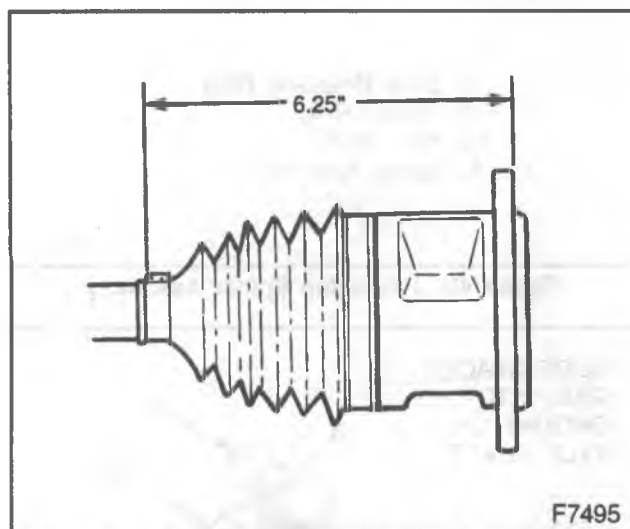

Figure 43—Tri-pot Seal Installation Measurement
- Be sure that counterbore face of tri-pot spider (3) faces end of shaft (13).
6. Install shaft retaining ring (2) in groove of axle shaft (13) with J 8059.
7. Slide tri-pot spider (3) towards end of shaft (13) and reseal spacer ring (8) in groove on shaft.
8. Place approximately half of grease provided in seal (11) and use remainder to repack tri-pot housing (1).
9. Position larger clamp (9) on seal (11).
10. Slide tri-pot housing (1) over tri-pot spider assembly on shaft (13).
11. Slide large diameter of seal (11), with larger clamp (9) in place, over outside of tri-pot housing (1) and locate lip of seal in housing groove.
12. Position the tri-pot assembly at the proper vehicle dimension as shown in Figure 43.